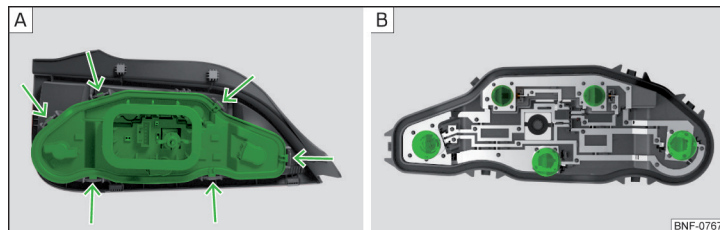

Fig. 148 Inner part of the lamp
- Unhook the bulb holder » Fig. 148 - **A**.
- Unscrew the defective bulb in its housing in an **anti-clockwise** direction and remove it » Fig. 148 - **B**.